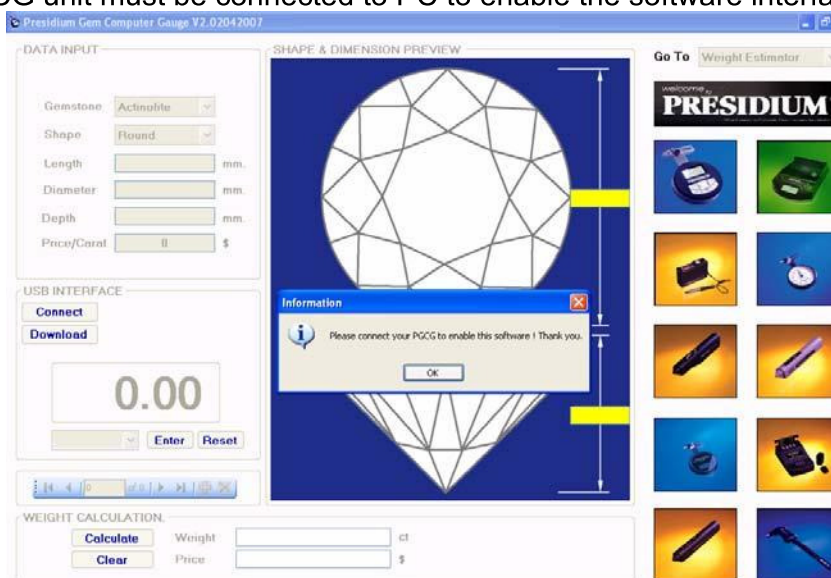

Figure 1.6
9) Upon start-up, the software interface is disabled (Please refer to Figure 1.6). To enable the interface, connect the PGCG unit to PC. (Note: The PGCG unit must be connected to PC to enable the software interface.)